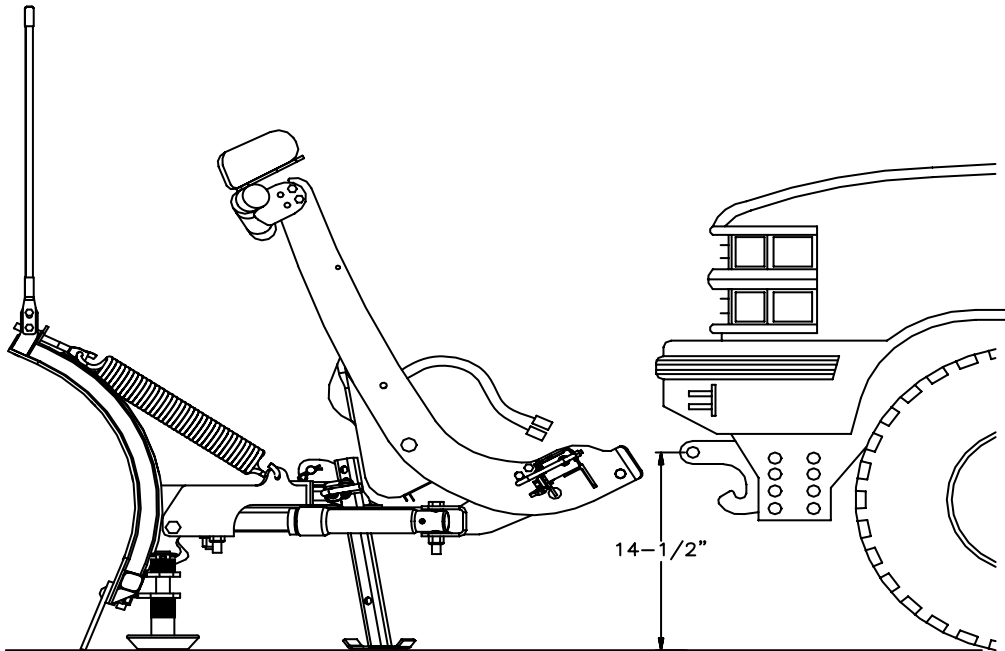

Figure 2
2. Cut rubber portion of air deflector attached to bumper and discard. Open vehicle hood and remove four vertical bumper bolts from existing Bumper Brackets (BB). Remove bolts from two outer bumper brackets if equipped on vehicle. Remove bumper.
3. Clamp existing Bumper Bracket (BB) to frame rail. Remove two existing Nuts (AA) from Bumper Bracket (BB). Use chisel and hammer between head of existing Bolts (CC) and Bumper Bracket (BB) to force them loose. Use caution to prevent damage to parts. Unclamp and remove Bumper Bracket (BB). Repeat process on opposite side of vehicle.
4. Assemble driver side Push Beam Support Plate (62B), existing Bolts (CC), Nuts (AA), and Bumper Bracket (BB) onto frame rail. Make sure Bumper Bracket is between inside of frame rail and Push Beam Support Plate (62B). Move Push Beam Support Plate (62B) up until horizontal gusset touches bottom of frame rail. Align two horizontal holes on Push Beam Support Plate (62B) vertical tab with outside horizontal frame rail holes. DO NOT INSERT OUTSIDE BOLTS YET! Tighten existing Nuts (AA) to hold Push Beam Support Plate (62B) in place. Repeat process on passenger side.
5. Insert Bolt Bars (101) through square slot on slanted front of vehicle crossmember. Manipulate Bolt Bars through horizontal slotted holes on crossmember and outside holes on Angle Bracket Assembly (75). Finger tighten ½" Split Lock Washers (F) and ½"-13 Gr 5 Nuts (G) on each side. Insert two ½"-13 X 1-1/2" Hex Head Bolts (A) through inside holes of Angle Bracket Assembly. Finger tighten ½" Split Lock Washers (F) and ½"-13 Gr 5 Nuts (G) on each side.
6. Assemble Push Beam Assembly (62) between Push Beam Support Plates (62A & 62B) using four ½"-13 X 1-1/2" Hex Head Bolts (A) and ½" -13 Hex Head Nylon Lock Nuts (B) on each side.
NOTE: The proper height adjustment for Push Beam Assembly (62) is 14-1/2" from the ground to the center of the pin receiving hole (see Figure 2). Leave hardware finger tight. Assemble Angle Bracket Assembly (75) onto tabs on back side of Push Beam Assembly (62) using two ½"-13 X 1-1/2" Hex Head Bolt, GR8, Yellow Zn (C) and ½"-13 Hex Head Top Lock Nut, GRC, Yellow Zn (D) on each side.
7. With all components in place, begin tightening hardware. Angle Bracket Assembly (75) should be tightened first. Make sure Angle Bracket Assembly (75) is attached to correct holes in Push Beam Assembly (62) tabs. Angle Bracket Assembly (75) arms should be level with ground.
8. Center bumper on vehicle with brackets aligned. Mark position of Push Beam Support Plates (62A & 62B) on plastic air dam. Remove bumper and notch air dam to allow bumper to fit over Push Beam Support Plates (62A & 62B). Reinstall bumper on vehicle. Air dam has to be forced on top of Push Beam Assembly (62) hooks or notched to allow clearance. Make sure outside bumper brackets (if equipped) slide between outside of frame rail and outside vertical tab on Push Beam Support Plates (62A & 62B).